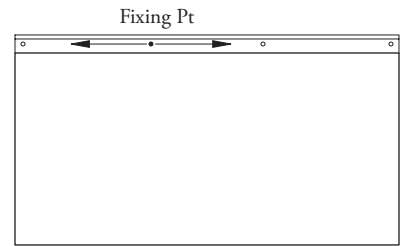

Fig. 2 · Each panel should have a single fixing point. The remainder of the holes should be slightly larger than the fasteners.
7. Place the panel on the wall and secure its position. Ensure that the panel fasteners are properly centered in panel holes. Each panel should have one fixing point (a smaller hole than the others) that controls the point of expansion and contraction (Fig. 2). All fixing points should be located in the same position for adjacent panels. Corner fixings should be located not more than 6 inches from either edge of the panel. Do not over tighten the screws or stripping or shearing the fastener head might occur. NorthClad® provides engineering services on a separate contract basis. It is normally the project structural engineer's responsibility to confirm size and frequency of attachments. The panels are not designed to support any vertical loads. If any heavy objects are to be supported by the panels, or if they are to be subject to extra mechanical stress, additional measures may need to be taken, please consult NorthClad® directly for assistance.